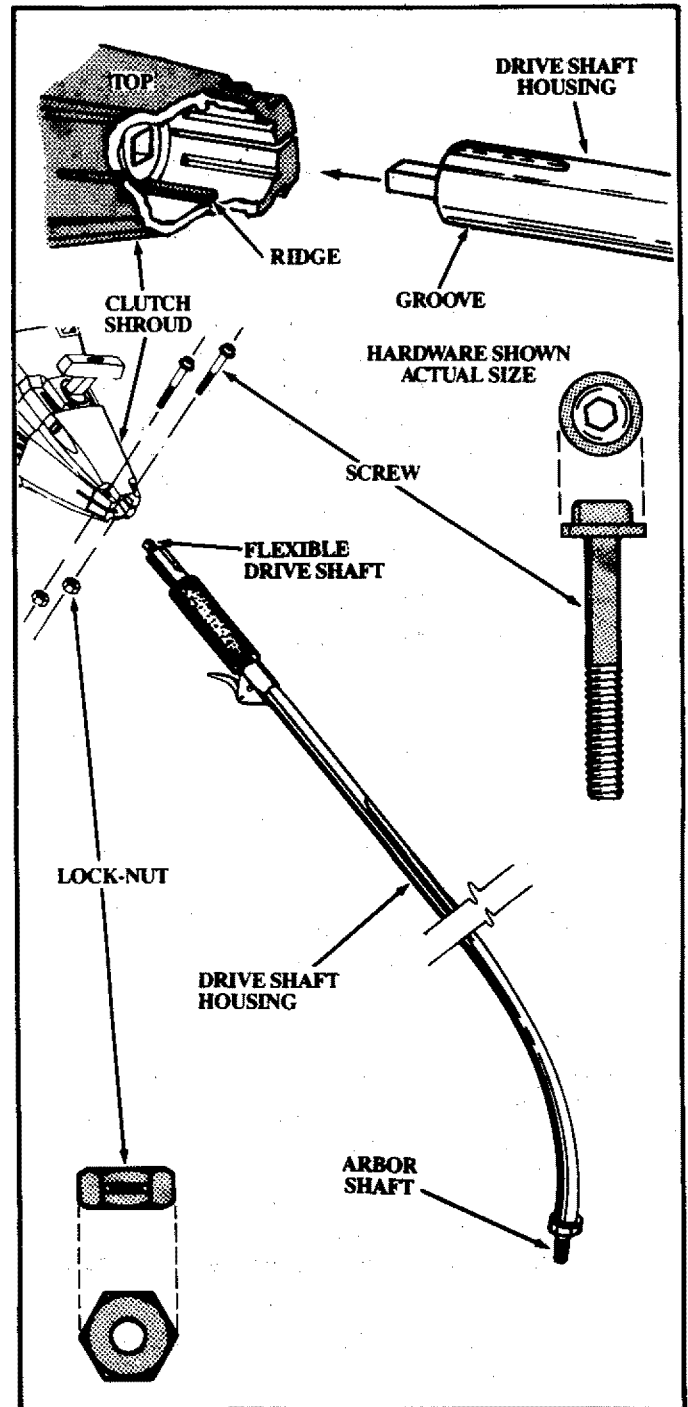

Figure 1
1. DRIVESHAFT HOUSING – Figure 1
- Place the two Screws (from the loose parts bag) into the holes on the Clutch Shroud as shown in Figure 1.
- Align the bottom groove on the Drive Shaft Housing with the Ridge on the inner, lower wall of the Clutch Shroud opening. Turn the Arbor Shaft as necessary to align the square end of the Flexible Drive Shaft with the square inside the Clutch Shroud opening. Firmly push the Drive Shaft Housing into the Clutch Shroud until it contacts the Foam Grip or is within 1/8 inch. Figure 1.